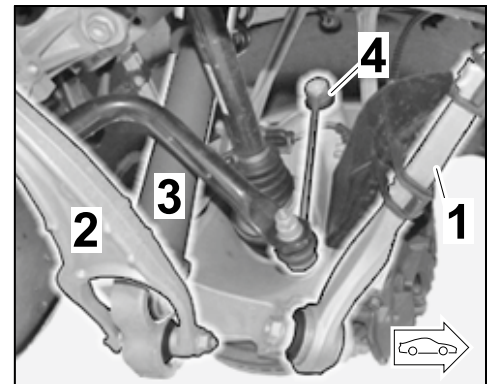

Figure 13
2.2.4 Remove lower control arms (diagonal/transverse) on the wheel carrier (at the left/right) (⇒ *Figure 13*).
2.2.5 Remove lower spring strut on wheel carrier (at the left ⇒ *Figure 13 -3-/right*).